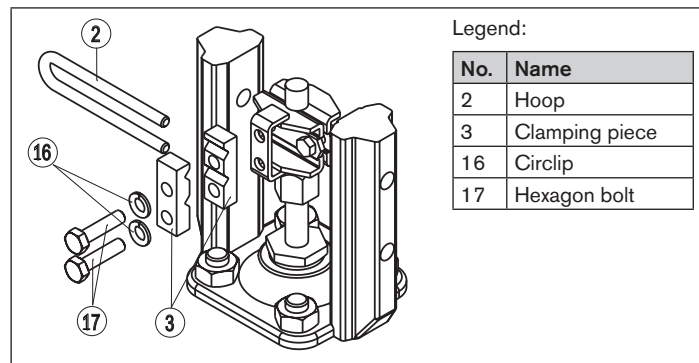

Fig. 25: Attaching the hoop
The conical roller ⑤ on the lever ⑥ of the position sensor must be able to move freely in the hoop (refer to “Fig. 25: Attaching the hoop”) along the entire stroke range of the actuator.